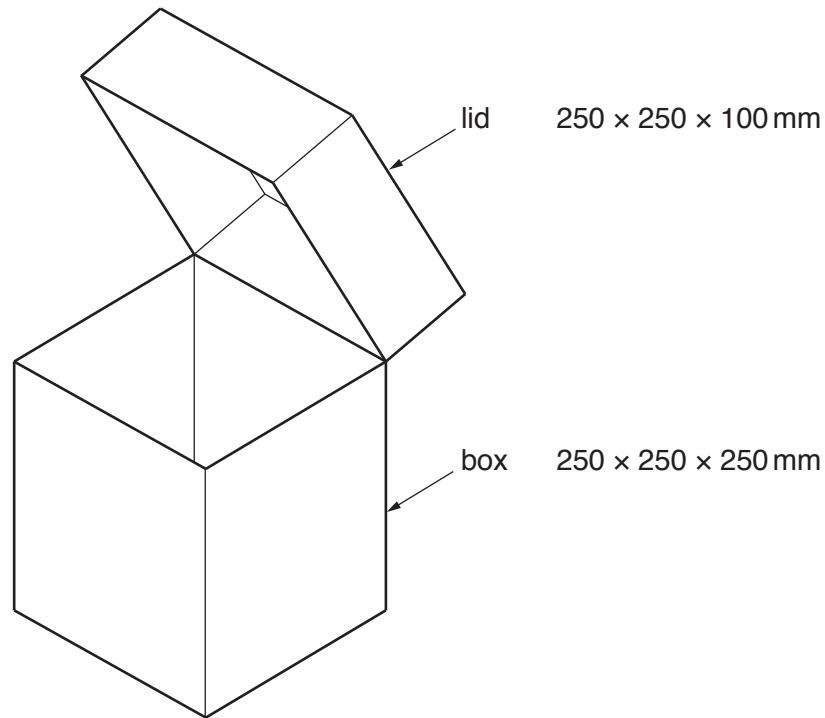

Fig. 8.1
- 8 Fig. 8.1 shows an incomplete idea for a card box to package a new board game.